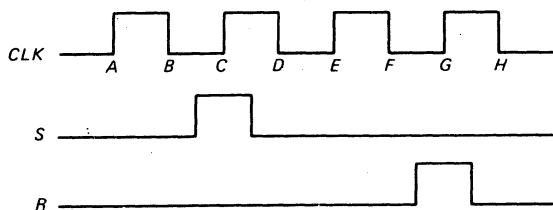

Fig. 7-17
- 7-1. The waveforms of Fig. 7-17 drive a clocked RS latch (Fig. 7-5a). If Q is low before time A,